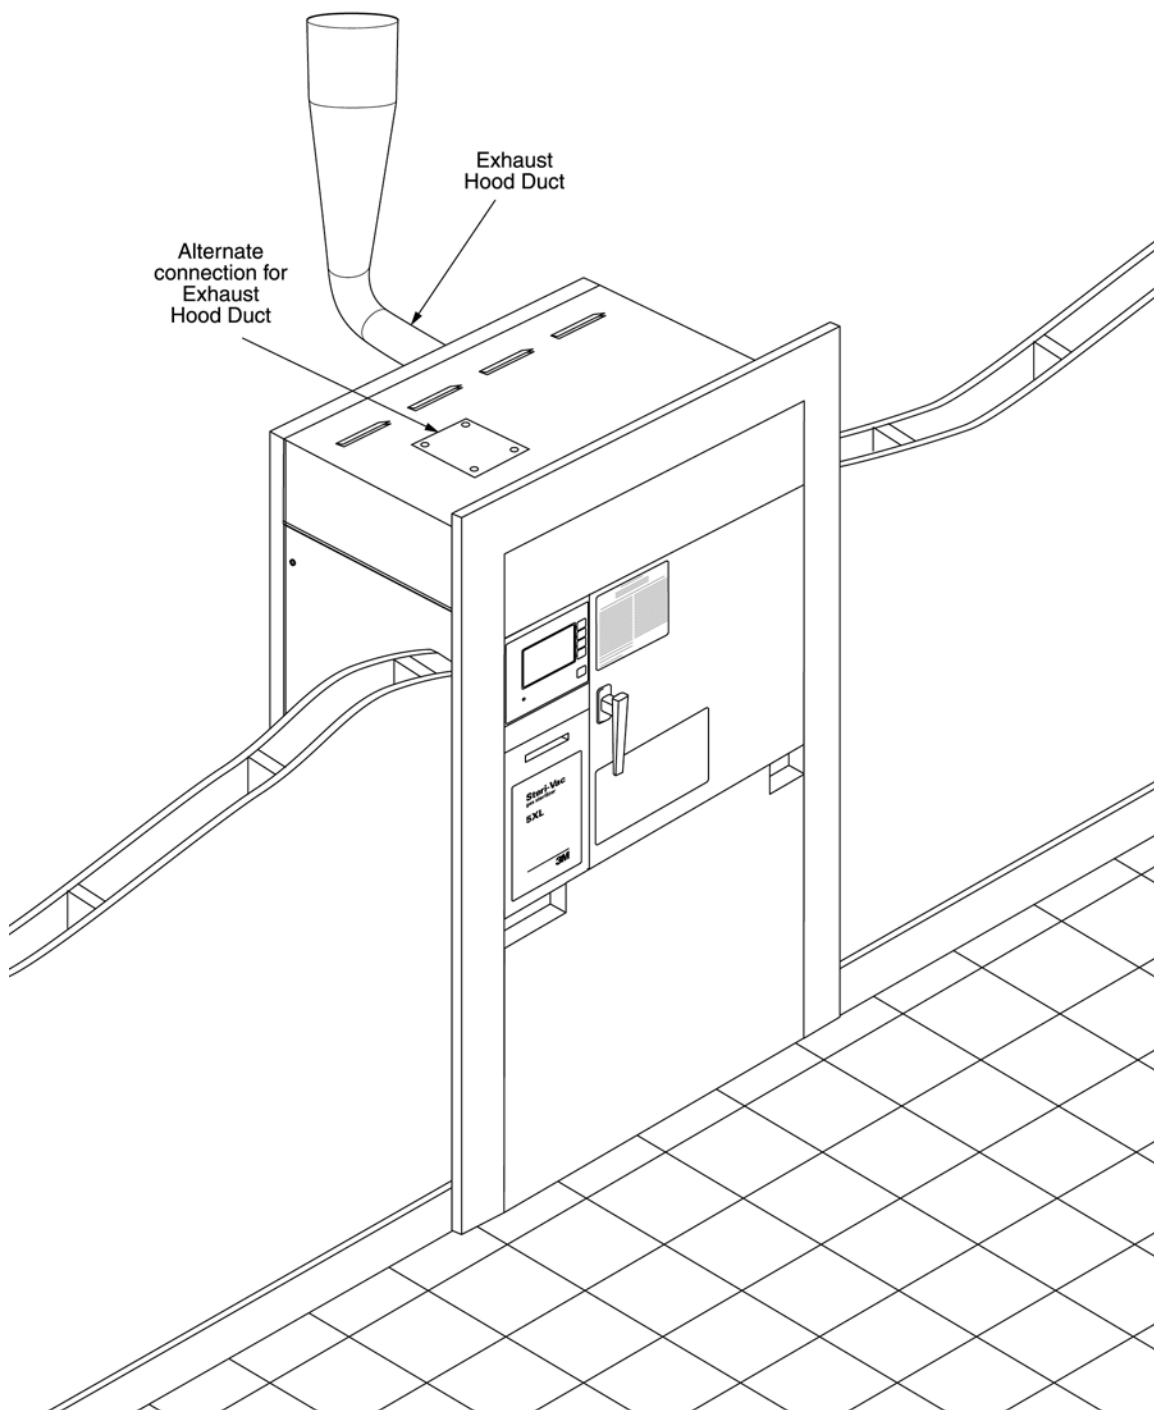

Figure 12. Typical In-wall Installation.
- ☐ Determine if a new exhaust system is needed or if an existing system can be used. If an existing system will be used, make sure the existing system meets the sterilizer equipment specifications. The diagrams in Figures 12, 13, and 14 show several installation possibilities. Consider them in planning your installation.